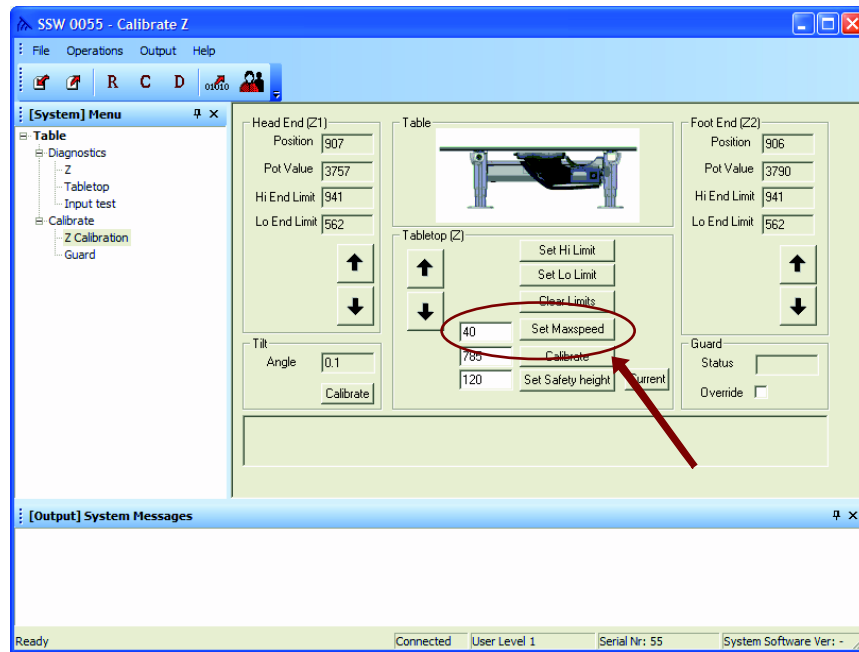

Fig. 4-163 Calibration Table Max Speed
2. Enter the new speed value (mm/sec) in the *Edit* box beside the *Set Max Speed* button, see **Fig. 4-163**. Observe that 40 mm/sec is the maximum speed.